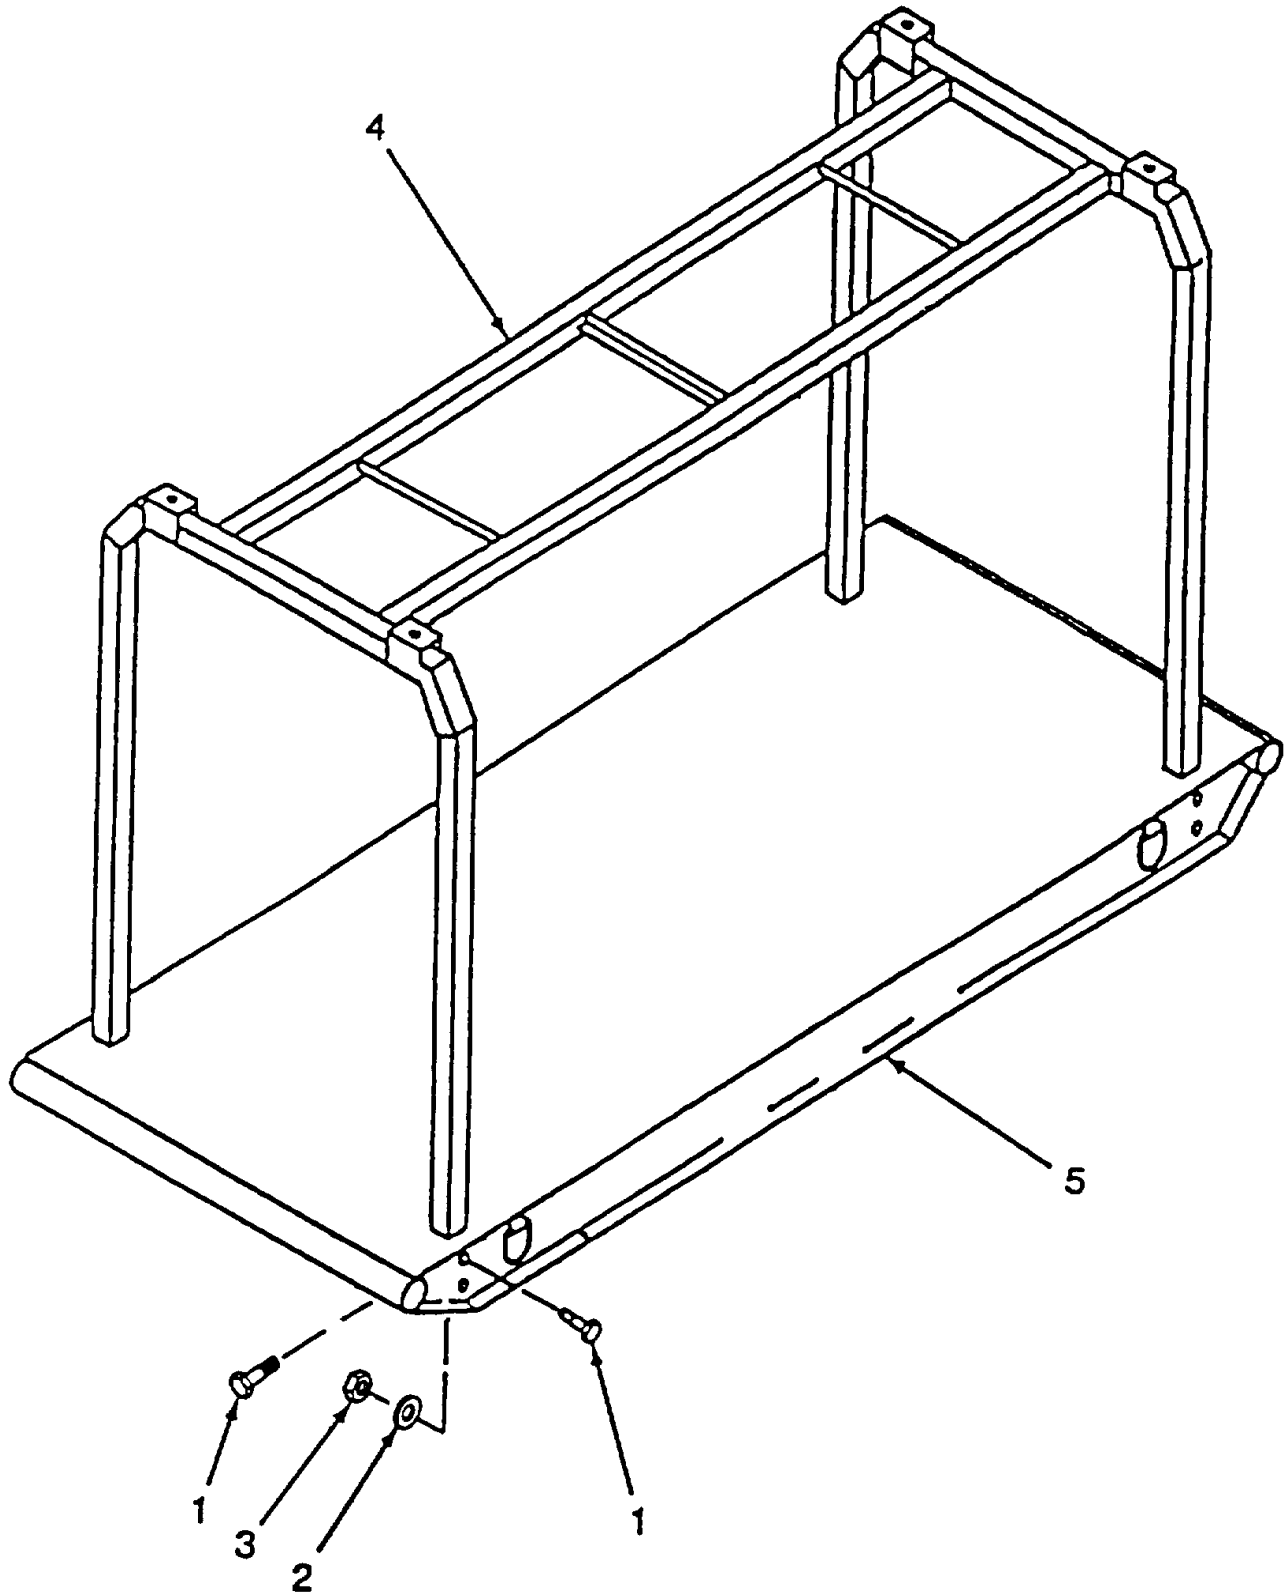

Figure 5-3. A-Frame
a. Removal. (Refer to Figure 5-3).
- (1) Remove twelve hex head - cap screws (1), twelve washers (2) and twelve self-locking nuts (3) holding A-frame (4) onto skid weldment (5). Discard twelve self-locking nuts. Typical four places.
- (2) Lift A-frame (4) from skid weldment (5).